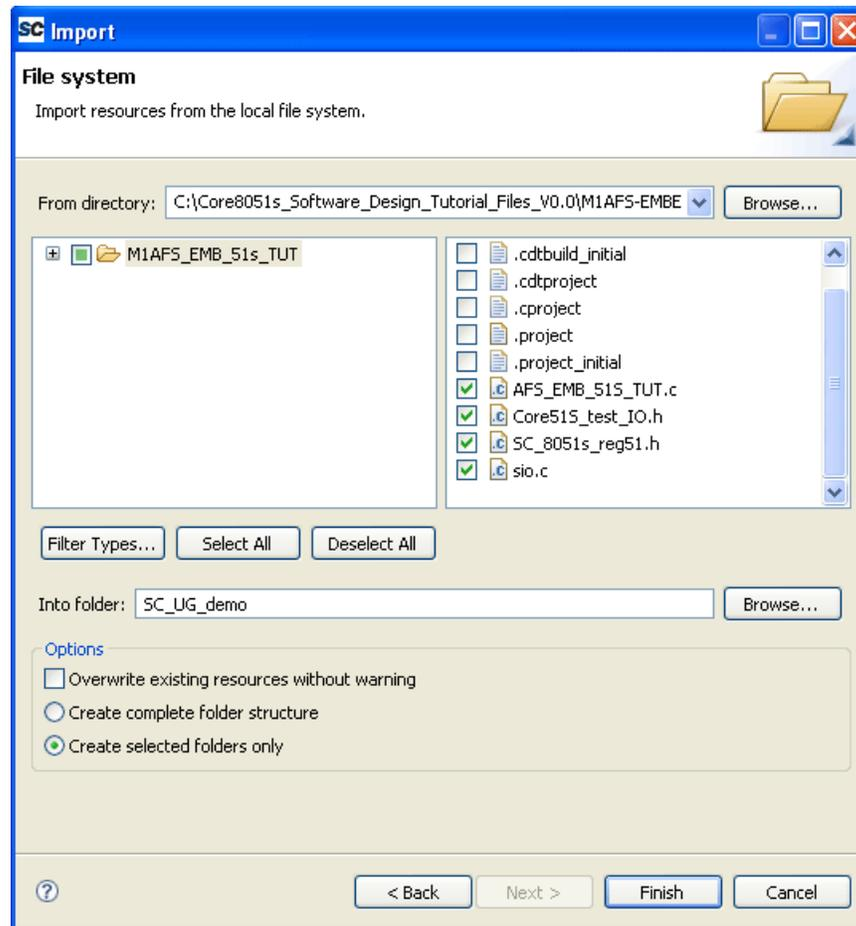

Figure 3-4 · Importing Files from a Project
- Select **General** to expand the options and select **File System**. Click **Next**. This opens the Import: File System window (Figure 3-4 on page 20).